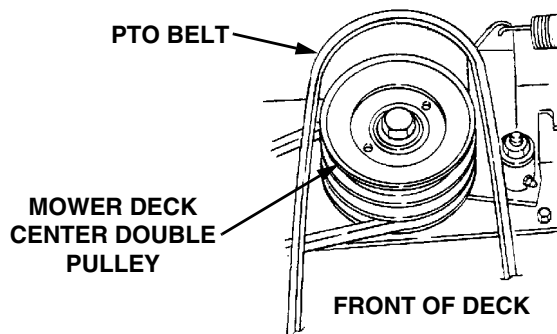
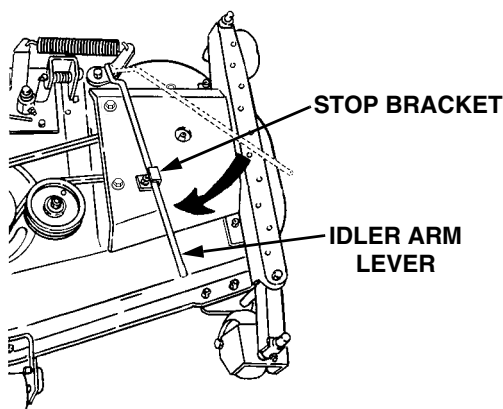

Figure 42
Figure 43
4. Remove the rearward end of the PTO belt from the upper pulley of the deck center double-pulley (Refer to Figure 42). Engage the deck idler arm lever back into its stop bracket (See Figure 43).